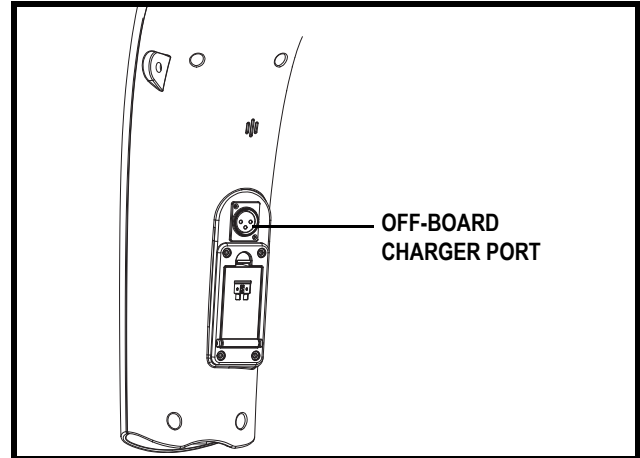

Figure 5. Off-board Charger Port (Tiller Mounted)
The off-board charger power cord plugs into this port during battery charging. The off-board charger port will be located on the tiller. See figure 5.
4. Plug the 3-pin charger power cord into the off-board charger port. **See figures 5 and 10.**